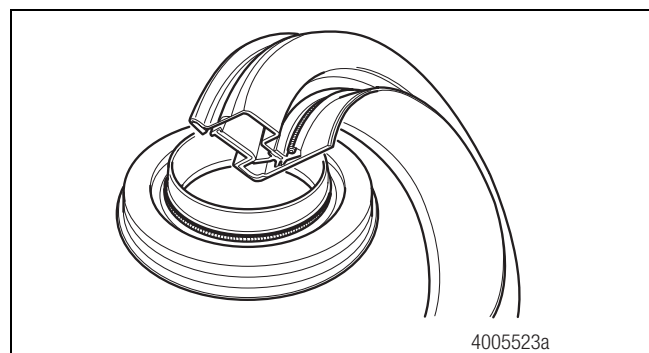

Figure 5.35
1. Remove the replacement multiple lip seal from the package. Figure 5.35.